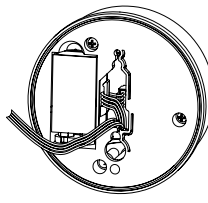

Fig. 3
3. Fold the connection cable inside the Keypad. (Fig.3)